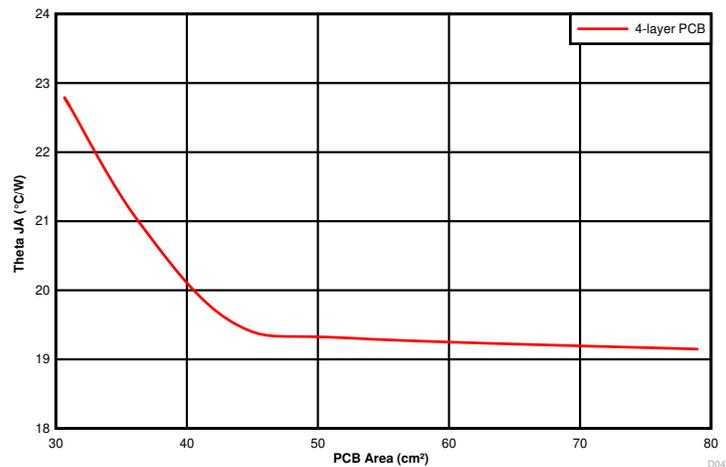

Figure 10-4.  $R_{\theta JA}$  versus PCB Area (per Layer)
The amount of PCB copper affects the thermal performance of the device. Figure 10-4 shows the effects of copper area on the junction-to-ambient thermal resistance ( $R_{\theta JA}$ ) of the TPSM53603. The junction-to-ambient thermal resistance is plotted for a 4-layer PCB with PCB area from 30 cm2 to 80 cm2.
3. Reference Figure 10-4 to determine the minimum required PCB area for the application conditions.